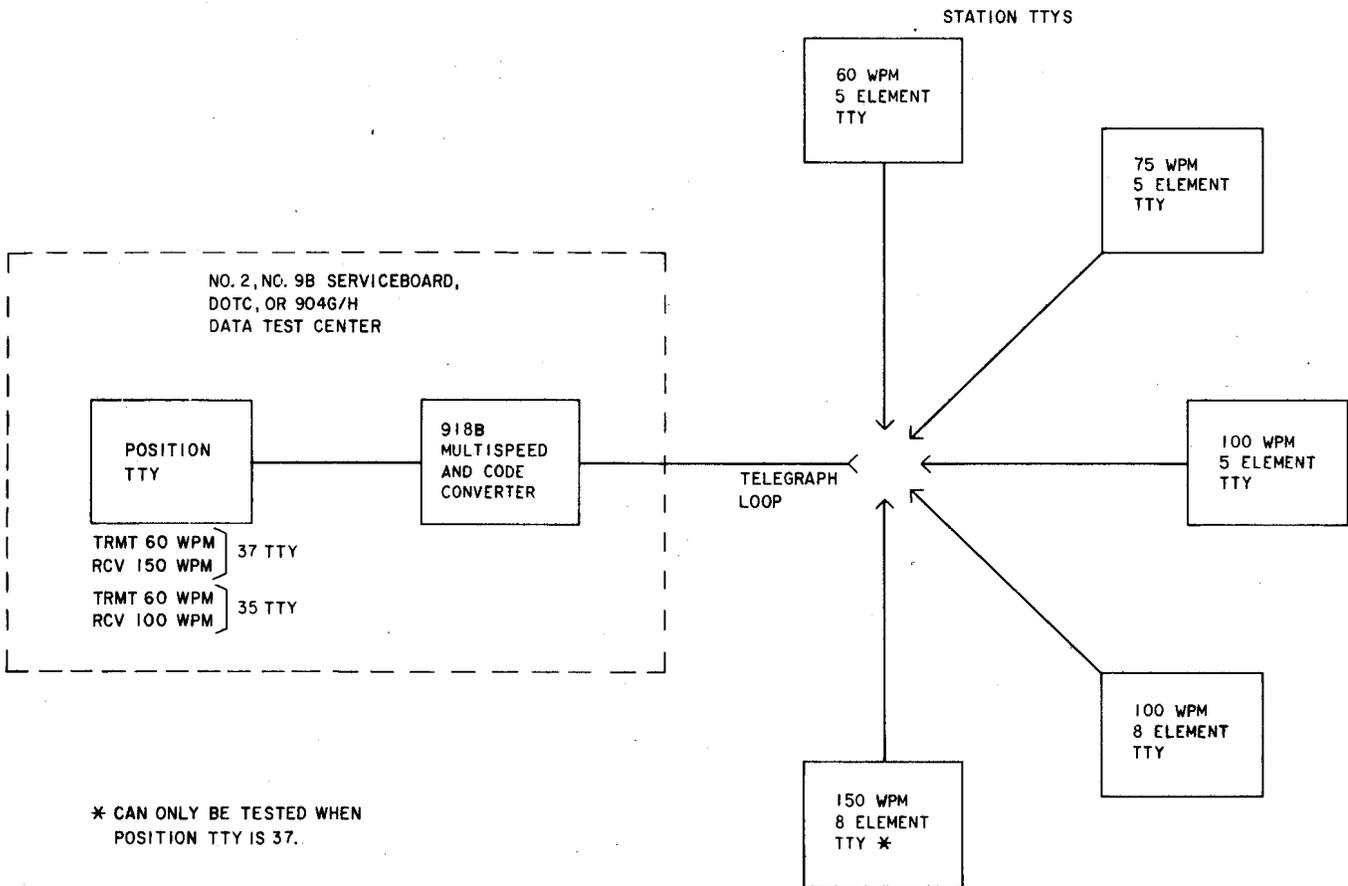

Fig. 1—918B Multispeed and Code Converter—System Block Diagram
1.04 The converter permits a single-position teletypewriter (TTY) operating at a single speed and code to communicate with a variety of TTYS operating at various speeds and codes. A block diagram of the system and typical station arrangements are shown in Fig. 1.